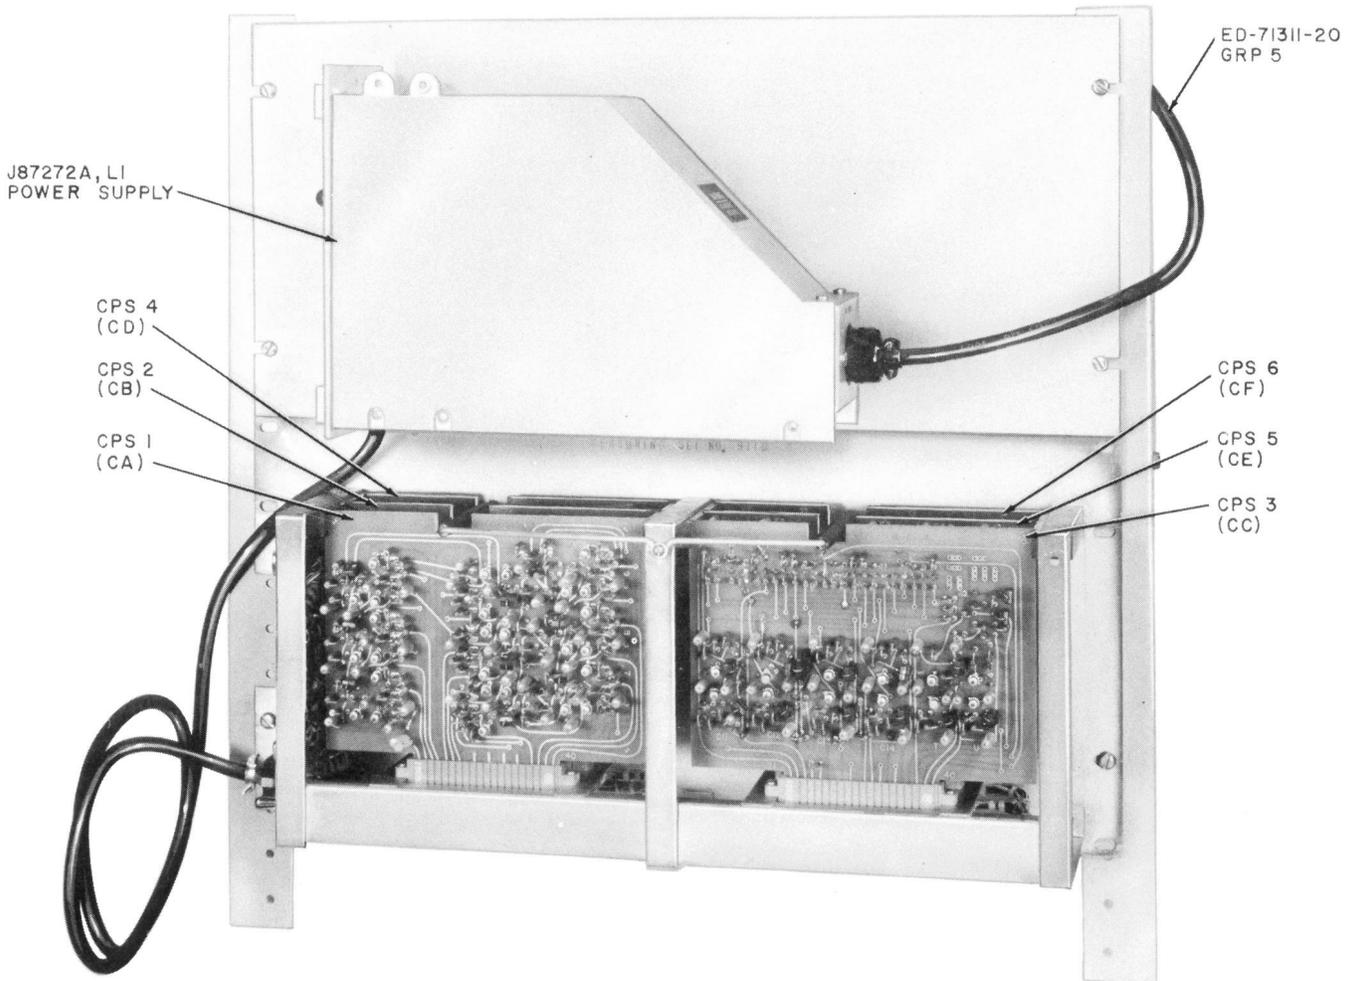

Fig. 4 — 911DA Printed Cards Unit, Location of Cards
**4.01** The location of cards are shown in Fig. 4. Table B cross references the cards with its ordering information.